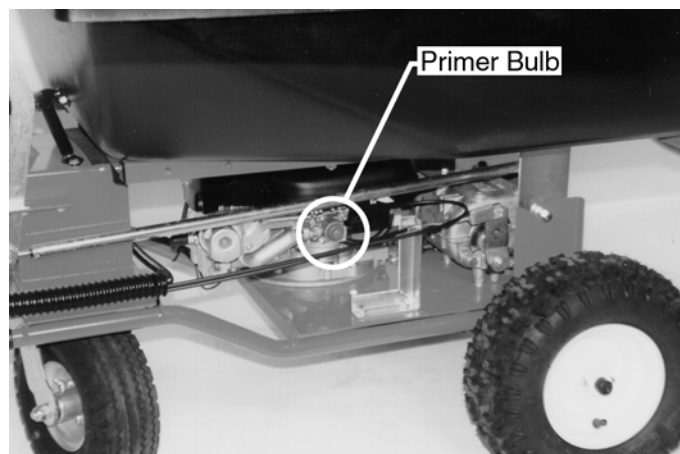

Figure 7
1. When starting a cold engine, push the primer bulb (*Figure 7*) firmly at least three times, allowing the bulb to return completely to its original position between pushes.